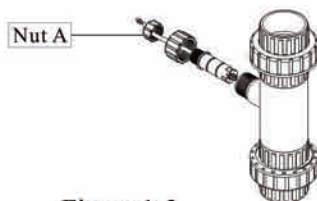

Figure 1-3
B. When the flow meter stops measuring but the tested liquid still flow, it can check the work mode of probe online. Screw the probe nut A out, and check the working condition of the diode on the back of probe. If the diode always light on or off, it indicates the impeller in pipeline stop rotating. It shall stop pipeline working, release pressure in pipeline, and disassemble the probe to check if there is any foreign matter impact impeller rotating. After cleaning, if it can rotate normally by manually, and the diode works normally, it can continue to use after confirming the installation correct.(As Figure 1-3)